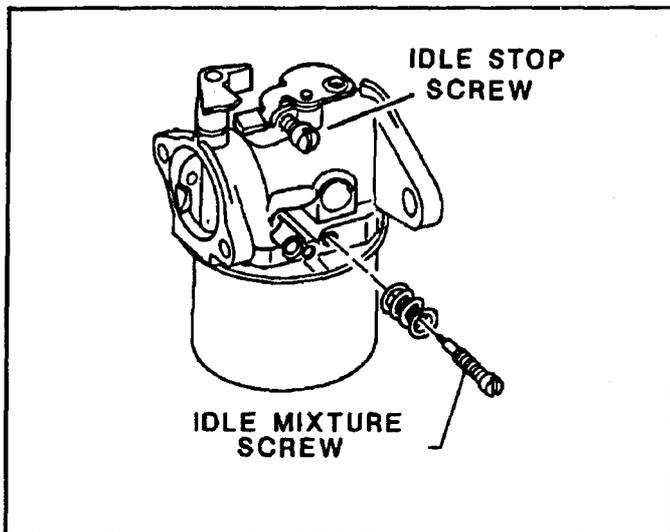

Figure 20
8. Install the idle mixture screw; nominally set at 1 to 1-1/2 turns open. See Figure 20.